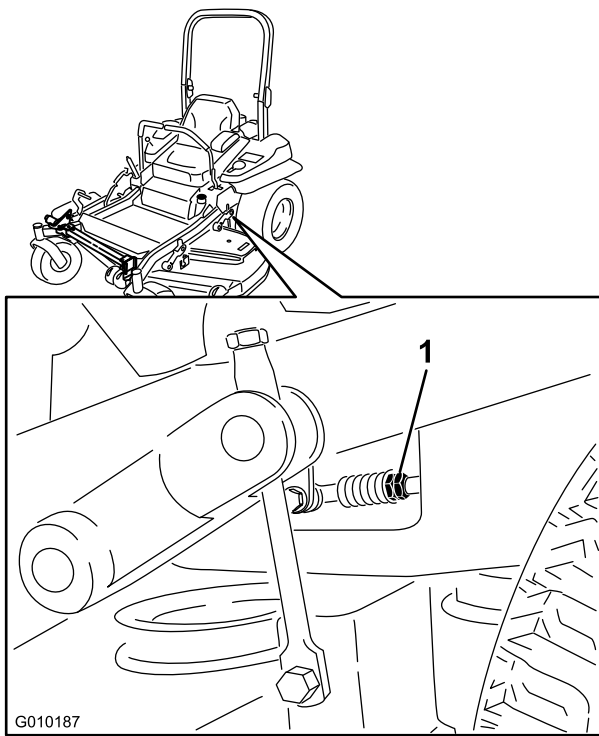

Figure 85
11. Adjust the pump control rod lengths by rotating the double nuts on the rod in the appropriate direction until the wheels slightly creep in reverse (Figure 85).